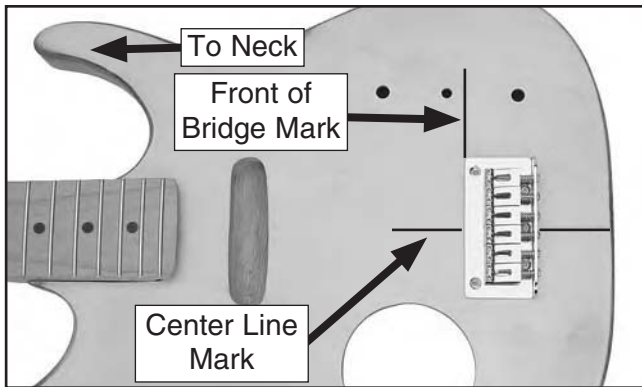

Figure 5. Bridge placement location.
- Place the bridge on the guitar so it is parallel to the mark made in **Step 7** and perpendicular to the center line (see **Figure 5**). The center line should intersect the middle mounting hole on the bridge.